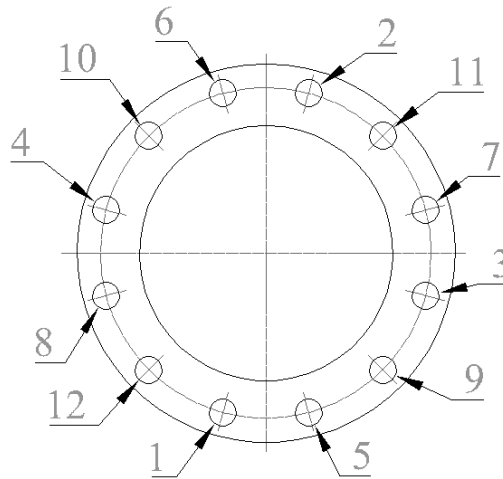

Fig. 5 Recommended re-tighten order
- Re-tighten diametrically opposite all the bolts as per factory specifications to overcome possible bolt relaxation during long-term storage (Fig.5)
- For high temperature and high pressure applications after 24 hours of operation, all nuts shall be re-tighten diametrically opposite up to design stresses (Fig.5). This action compensate any relaxation or creep. Periodic inspection is recommended, thereafter.